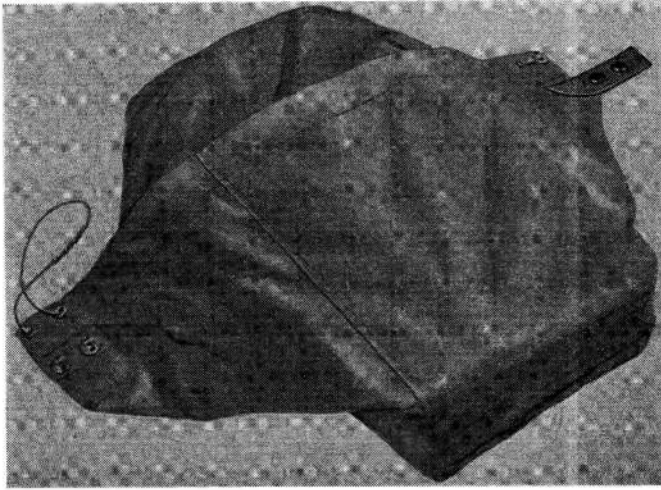

Fig. 10. Survival equipment stowed in large container : mouth folded to form flaps fastened round package
24. When all items have been stowed, fold the mouth of the container to form two flaps (*fig. 10*) and turn the package over. Fasten the flaps together round the contents ; this provides sufficient rigidity to prevent the items becoming unduly displaced during subsequent handling.